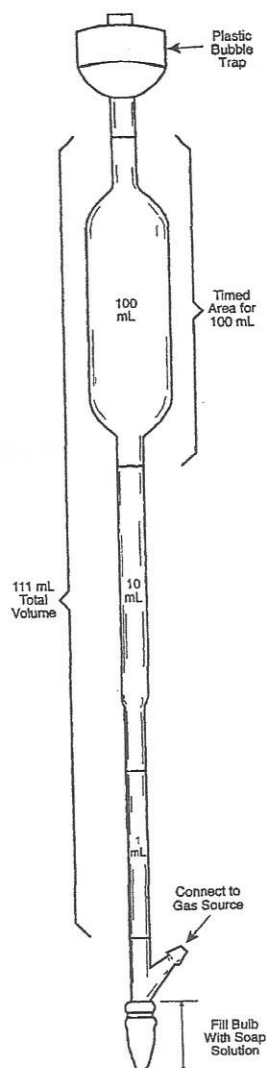

Figure 2-4. Bubble-O-Meter (PN A.303030006)
4. Connect a precision flow meter such as the bubble-o-meter (figure 2-4) to the GAS OUT fitting. The 303B flow meters must be calibrated for all sample gases (refer to Appendix E for correction factors).